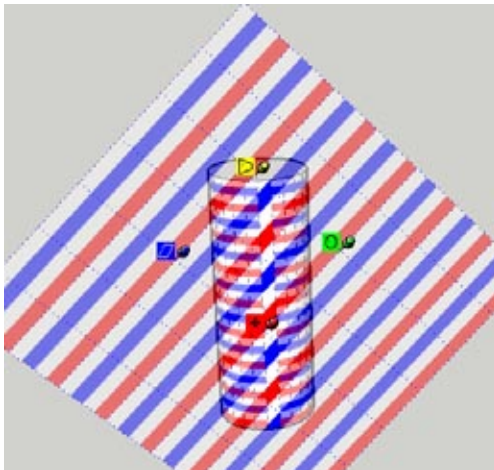

Figure 8-71
3. Right-click on one of the segments and choose Texture→Position. In Fixed Pins mode, drag the green pin to both rotate the stripes and make them larger (Figure 8-71).